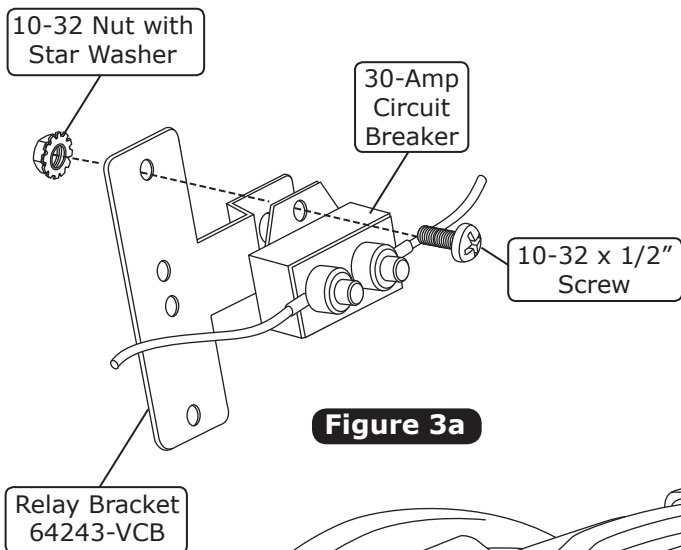

Figure 3a
1. Using a 10-32 x 1/2" screw and a 10-32 nut with star washer, install the 30-amp circuit breaker onto the relay bracket as shown in Figure 3a, below.